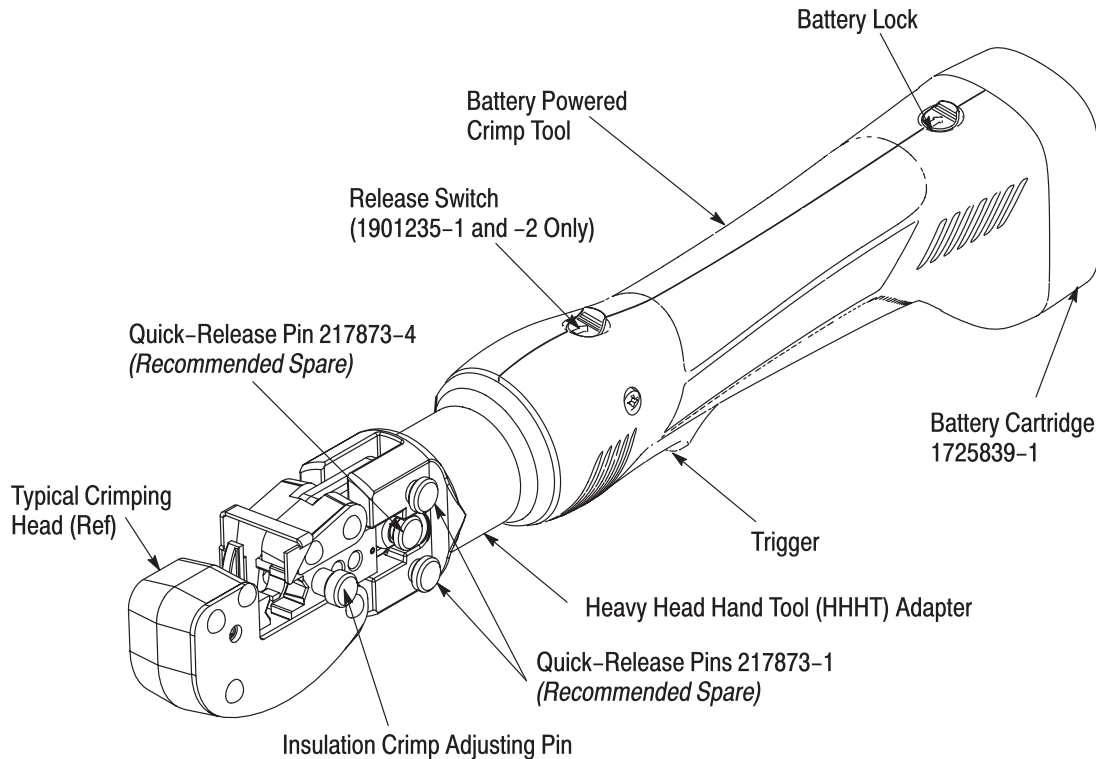

Figure 1
Each crimping head features a head containing two stationary crimping dies (anvils) and two movable crimping dies (indenters), a locator, an insulation crimping adjustment pin, and a battery powered crimp tool. See Figure 1.
As supplied, the adapter has three quick-release pins installed (Figure 1). The two outer pins will be used to secure the links of the crimp head (exposed portion of the crimp head) to the adapter. The center pin will be used to secure the movable die of the crimp head to the ram of the adapter.
2. Insert the exposed portion of the crimp head into the adapter cavity. See Figure 1.
1. Insert the insulation crimp adjustment pins into the No. 3 position. Refer to Figure 1.